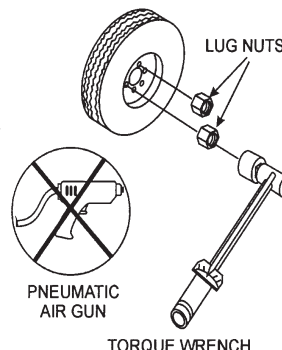

Figure 59. Wheel Lug Nuts Tightening Sequence
2. Torque all lug nuts in sequence. See Figure 59. **DO NOT** torque the wheel lug nuts all the way down. Tighten each lug nut in 3 separate passes as defined by Table 9.